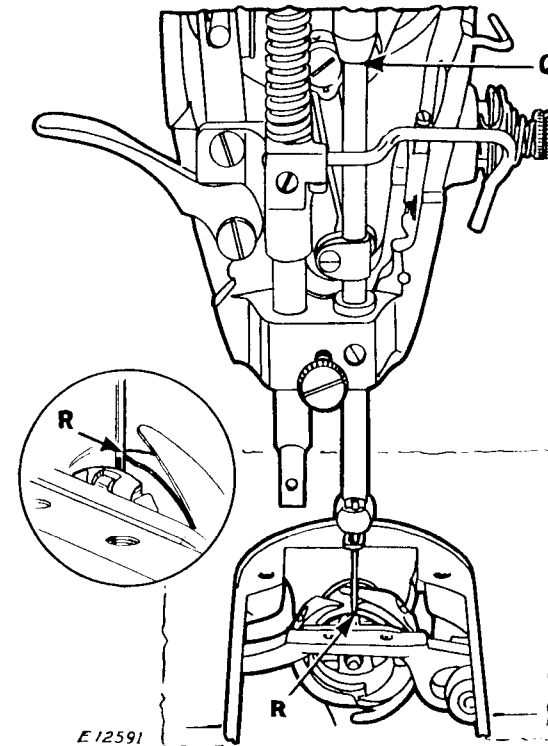
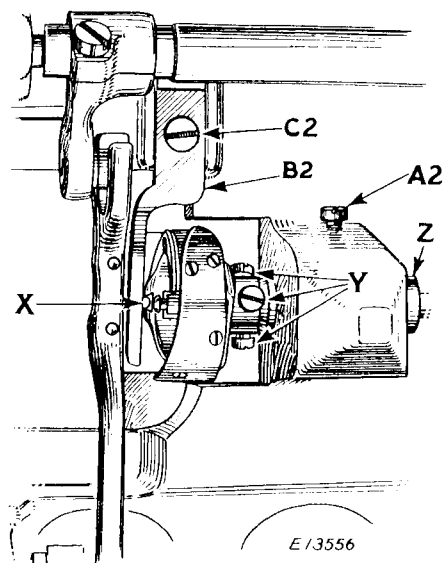
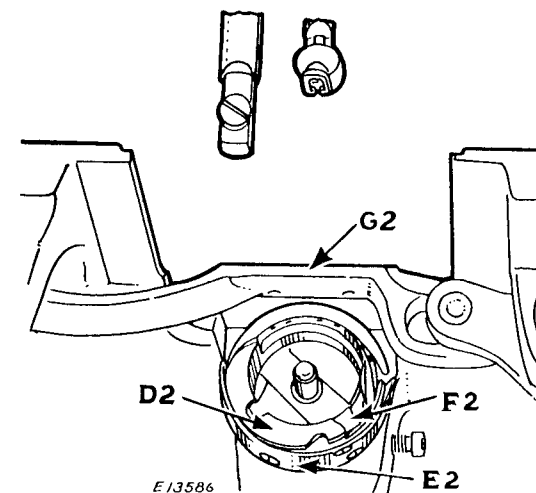

Fig.22. Needle and Sewing Hook Correctly Timed
Fig. 23. View of Underside of Machine Showing Bobbin Case Holder Position Bracket (B2) and Adjustments on Machine
Fig. 24. Showing Correct Position of Thread Guard (E2) and Bobbin Case Holder (D2) for Removal of Sewing Hook
To determine that the hook is correctly timed, place a new needle in the machine, then turn the balance wheel over toward you until the LOWER TIMING MARK on the needle bar is centered with the lower end of the needle bar bushing as shown at (Q, Fig. 22) when the needle bar is on its upward stroke. With the needle bar in this position, the point of the hook should be at the center of the needle as shown at (R, Fig. 22). The inset in circle at the left of Fig. 22 plainly shows this position of the hook point relative to the needle.
In case the hook is not correctly timed, loosen the three screws (Y, Fig. 23) in the hub of the hook. These three screws can be reached from the top of the machine bed through the open-
ing left by the removal of the throat plate, although, for purposes of illustration, the screws are shown only in the view of the underside of the machine in Fig. 23. Rotating the balance wheel of the machine will bring these screws, one at a time, directly under the throat plate opening where they can be easily reached with a screwdriver from the top of the machine bed.
After loosening the three screws (Y, Fig. 23) turn the hook on its shaft to bring the point of the hook at the center of the needle as shown at (R, Fig. 22), then tighten the three screws (Y, Fig. 23).
The hook should be set as close as possible to the needle without touching. If the hook is too close to the needle or too far away from it, loosen the three screws (Y, Fig. 23) and the bushing screw (A2, Fig. 23) and drive the bushing (Z, Fig. 23) in or out, as may be required, until the hook just clears the needle, being very careful not to damage the bushing, then securely tighten the bushing screw (A2) and the three screws (Y).
Remove the needle, slide plate and bobbin case. Take out the screw (C2, Fig. 23) and remove the bobbin case holder position
bracket (B2, Fig. 23). Loosen the three set screws (Y, Fig. 23) in the hub of the hook, then turn the balance wheel over toward you until the feed bar (G2, Fig. 24) is raised to its highest position. Turn the sewing hook until the thread guard (E2, Fig. 24) is at the bottom, as shown in Fig. 24, and turn the bobbin case holder (D2, Fig. 24) until it is in the position shown in Fig. 24. The sewing hook can then be removed from the hook shaft.
When placing a new sewing hook on the shaft, have the thread guard (E2) of the hook at the bottom and the bobbin case holder (D2) turned to the position shown in Fig. 24, so that the hook will clear the feed bar (G2).
When the hook is in position on the shaft, turn the bobbin case holder (D2, Fig. 24) until the notch (F2, Fig. 24) is at the top, then replace the bobbin case holder position bracket (B2, Fig. 23) being careful to see that the position stud (X, Fig. 23) enters the notch at the top of the bobbin case holder, as shown in Fig. 23,
then securely fasten the position bracket by means of the screw (C2, Fig. 23). Replace the needle and time the sewing hook as instructed on pages 17 and 18. When tightening the three screws (Y, Fig. 23) in the hub of the hook, draw the hook shaft toward the needle bar end of the machine and press the hook toward the balance wheel to take up the end play in the shaft. Then replace the bobbin case and slide plate.